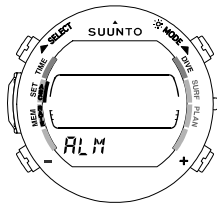

Fig. 5.6 Daily Alarm Setting Mode.
1. In the Setting Mode, press **(SELECT)** two (2) times to select the Daily alarm Setting Mode (Fig. 5.6).